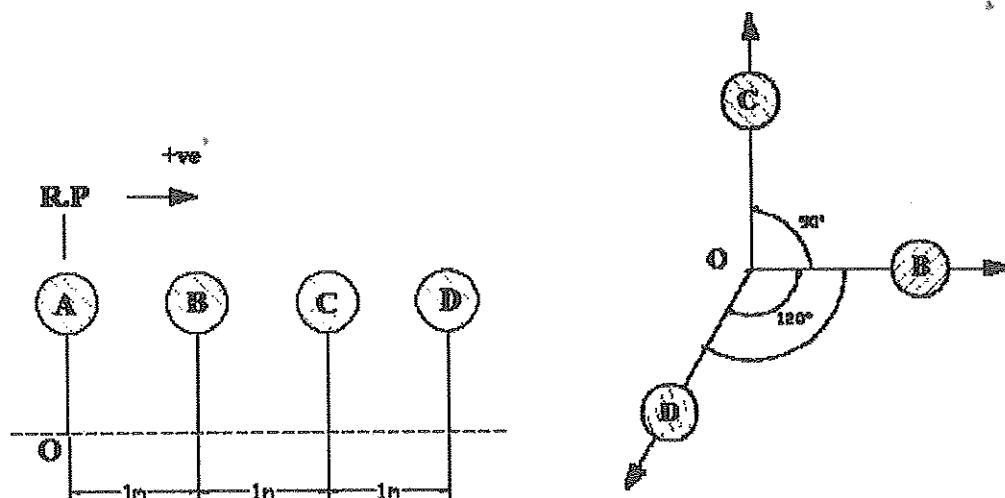

Figure 3(a) / Rajah 3(a)
- (a) A rotating shaft has four masses A, B, C and D with radius of 100 cm. The mass B is 7kg with an angle of  $BOC = 90^\circ$  and  $BOD = 120^\circ$  as shown in Figure 3(a). Calculate: